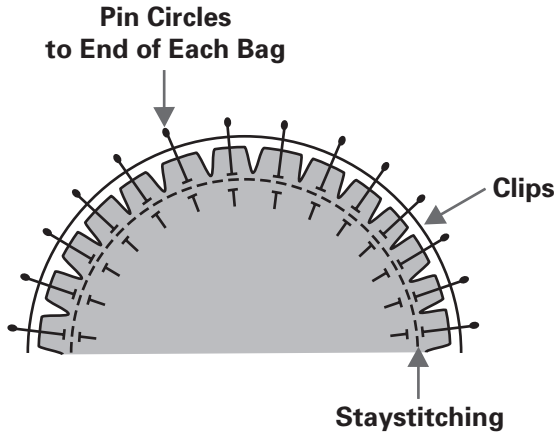

Fig. 12-7
8. With right sides facing, pin a circle to each end of the duffle bag, easing the curve as needed. Insert the pins at right angles to the staystitching line. (Fig. 12-7)